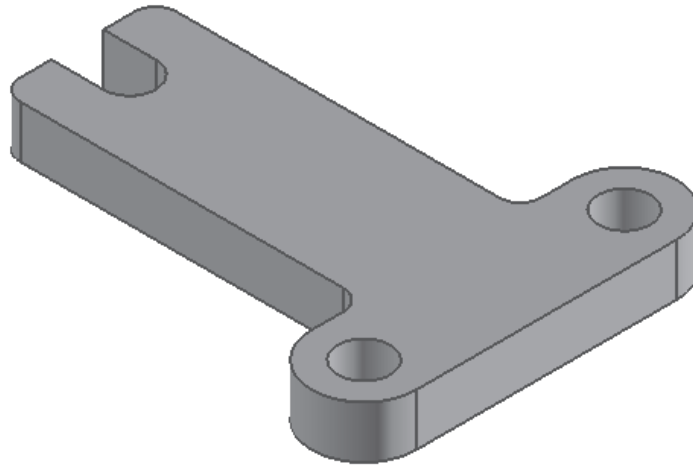

Figure 4-61 Base feature of the model
8. Hide the sketch and the default datum planes. The base feature of the model is shown in Figure 4-61.